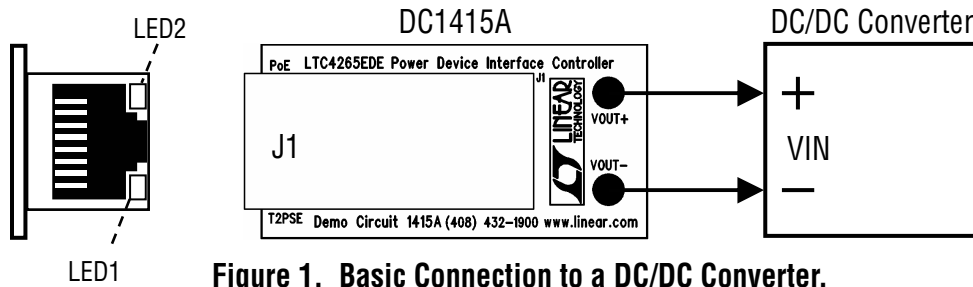

Figure 1. Basic Connection to a DC/DC Converter.
- a. Use Figure 1 if the DC/DC converter has sufficient built-in startup delay. The LTC4265 limits the current to 100mA during startup; if the DC/DC converter tries to draw more than 100mA during this time then startup will fail. The required delay depends on the input capacitance and Under-Voltage Lock Out (UVLO) threshold of the particular converter.
There are two LEDs on the front of J1 as shown in Figure 1. In a typical PD application a PHY chip would drive these LEDs to indicate the status of the Ethernet link or traffic activity; however, on the DC1415A board the LTC4265 drives the LEDs to indicate PoE status.
Many DC/DC converters include startup delay sufficient to prevent this situation. Such a converter may be connected to the DC1415A board as shown in Figure 1.